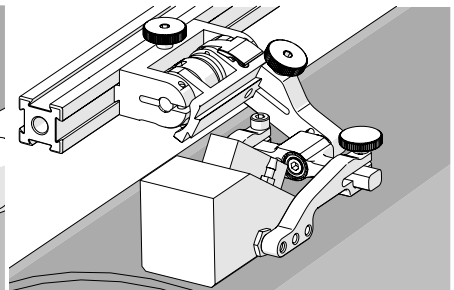

Fig. 161 - Spring loaded scan position
4. Gently lower probe holder and wedge to the scanning surface (Fig. 161).